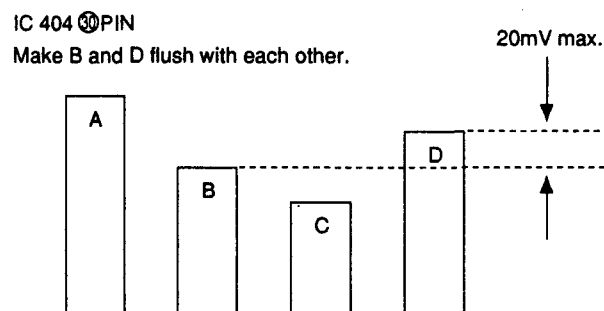

Fig. 5-31
- 2) Connect the probe of an oscilloscope to IC404 ③ PIN or TP402.
- 4) Adjust **[CHROMA SECAM]** so that the peaks of waveforms will be flush with each other as shown in Fig.5-31.